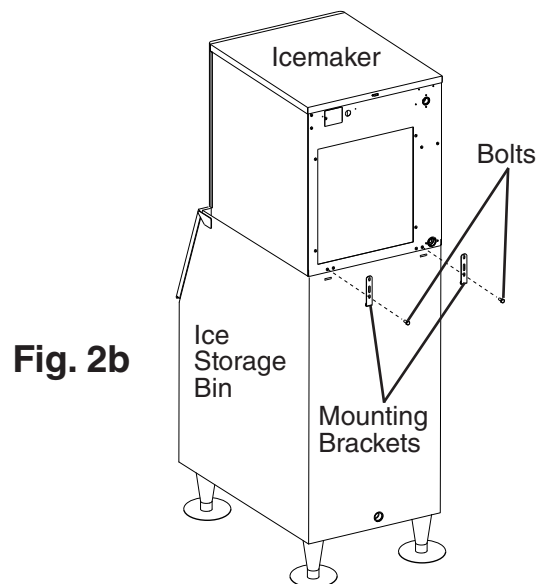

Fig. 2b
- 6b) **Ice Storage Bin:** Follow the ice storage bin, adapter kit, or top kit instructions for securing the icemaker. If no instructions are available, secure the icemaker using the 2 mounting brackets and the bolts provided. See Fig. 2b.